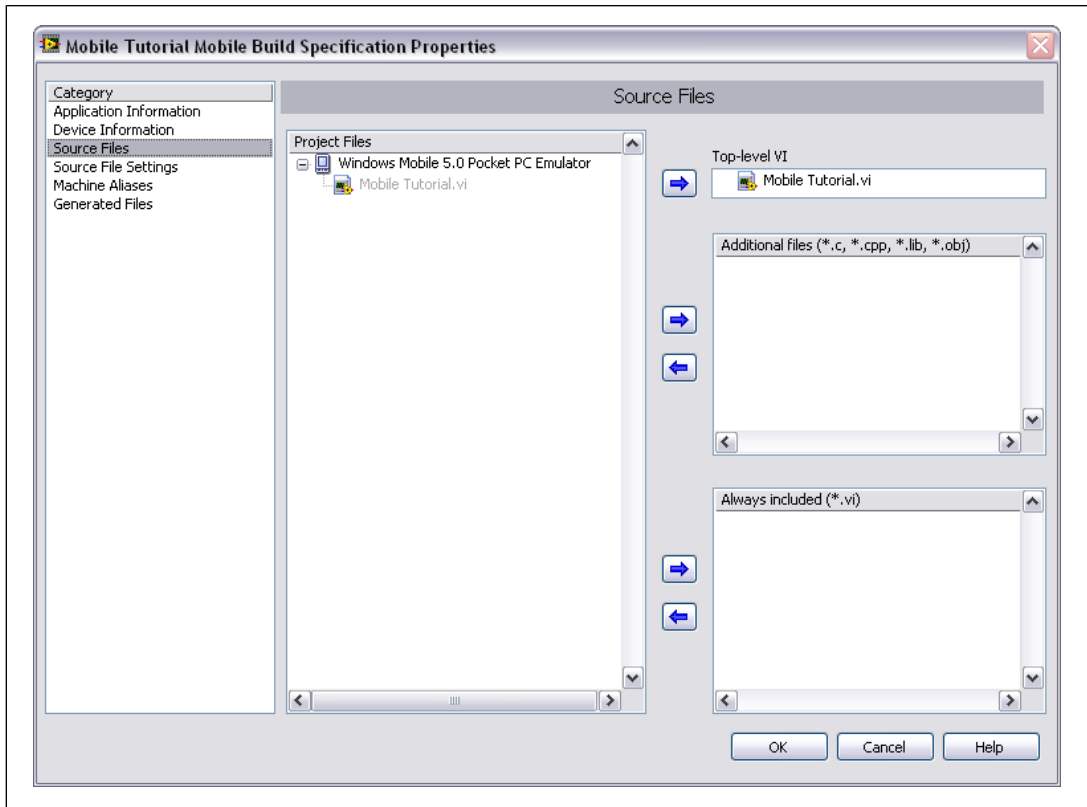

Figure 5. Selecting the Source Files
4. Select the **Source Files** category to select the source files to include when you build the VI into an application. When you use the Mobile Project Wizard to create a build specification, LabVIEW automatically uses the VI you import as the top-level VI. When you create build specifications outside of the wizard, you must manually select the top-level VI and click the blue arrow button to move the VI to the **Top-level VI** text box, as shown in Figure 5. Mobile applications can have only one top-level VI.